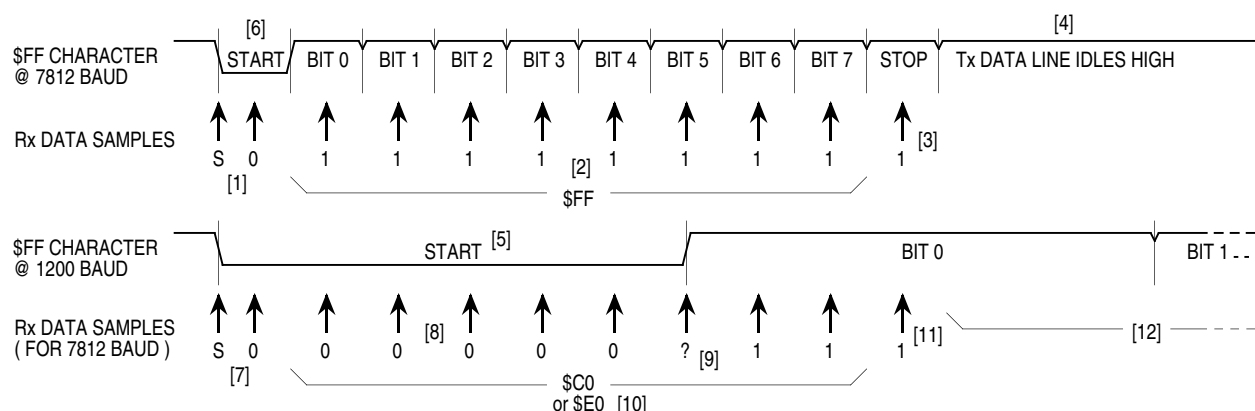

Figure 2. Automatic Detection of Baud Rate
- The second baud rate available to the M68HC11 bootloader is 1200 baud at a 2-MHz E-clock rate. Some of the newest versions of the M68HC11, including the MC68HC11F1 and MC68HC117K4, accommodate other baud rates using the same differentiation technique explained here. Refer to the reference numbers in square brackets in Figure 2 during the following explanation.
Figure 2 shows how the bootloader program differentiates between the default baud rate (7812 baud at a 2-MHz E-clock rate) and the alternate baud rate (1200 baud at a 2-MHz E-clock rate). The host computer sends an initial \$FF character, which is used by the bootloader to determine the baud rate that will be used for the downloading operation. The top half of Figure 2 shows normal reception of \$FF. Receive data samples at [1] detect the falling edge of the start bit and then verify the start bit by taking a sample at the center of the start bit time. Samples are then taken at the middle of each bit time [2] to reconstruct the value of the received character (all 1s in this case). A sample is then taken at the middle of the stop bit time as a framing check (a 1 is expected) [3]. Unless another character immediately follows this \$FF character, the receive data line will idle in the high state as shown at [4].
The bottom half of Figure 2 shows how the receiver will incorrectly receive the \$FF character that is sent from the host at 1200 baud. Because the receiver is set to 7812 baud, the receive data samples are taken at the same times as in the upper half of Figure 2. The start bit at 1200 baud [5] is 6.5 times as long as the start bit at 7812 baud [6].